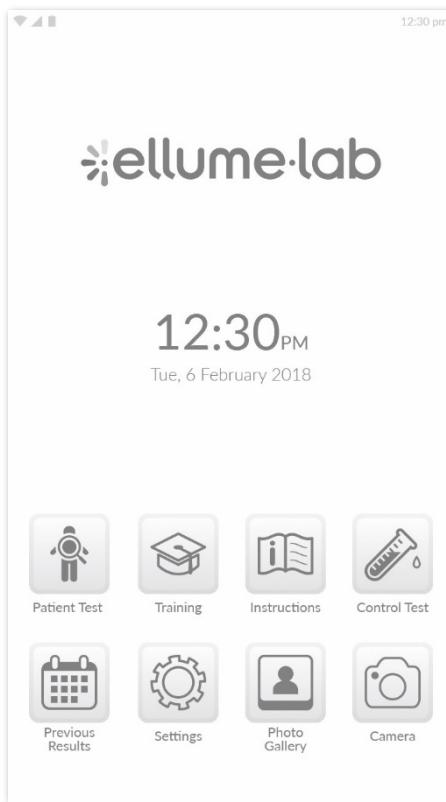

Figure 2 - Home Screen
Once the ellume·lab has booted, you will see the Home Screen (Figure 2). Press the *Settings* icon (Figure 9).
1. From the Home Screen (Figure 2) press the *Settings* Icon.
1. From the Home Screen (Figure 2) press the *Settings* icon.
The Home Screen (Figure 2) is the starting point for accessing features and applications of the ellume·lab. The *Patient Test* icon allows the users to perform a diagnostic test on a patient (Section 5). The *Control Test* icon allows the users to perform an External Quality Control (Section 5). You can also access other apps such as *Training*, *Previous Results*, *Instructions*, *Settings* and *Flashlight*.
All previous test results can be accessed by pressing the *Previous Results* icon (Figure 4) from the Home Screen (Figure 2). Previous results are identified by Patient/Control ID, unique eStick identifiers, date and time stamp, test type and outcome.
The *Instructions* app contains all instructional material for the ellume-lab Tests, including Information Videos, Instructions for Use, and Quick Reference Instructions. The *Instructions* app can be opened by pressing the *Instructions* icon (Figure 8) on the home screen (Figure 2).
The system settings can be accessed from the *Home Screen* (Figure 2) and pressing the *Settings* icon (Figure 9).
1. Press the from the Home Screen (Figure 2) press the *Settings* icon.